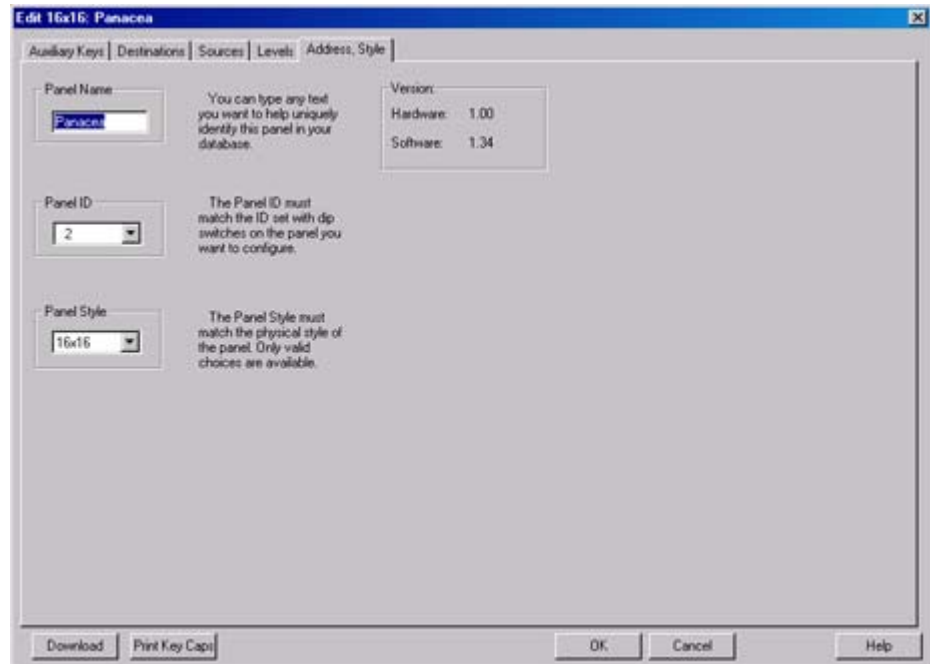

Figure 7. Address, Style Tab
3. Select the Address, Style tab (see Figure 7). Panel name, ID, and style information should match the information RouterMapper found when you polled the system.